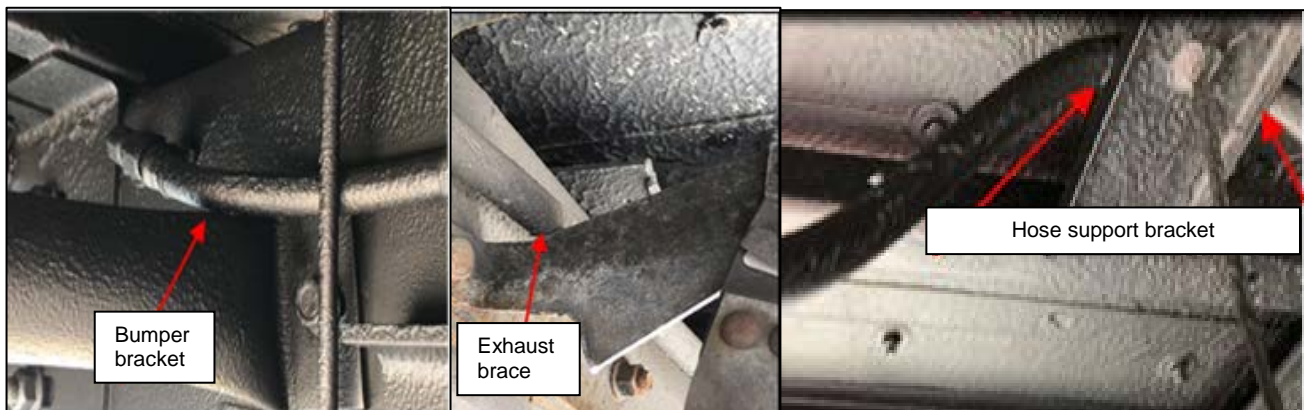

Figure 3: Examples of Interference along the Fuel Line
5. Before the connection to the straight fitting, look for additional points of interference and reroute as needed. See examples in **Figure 3**.